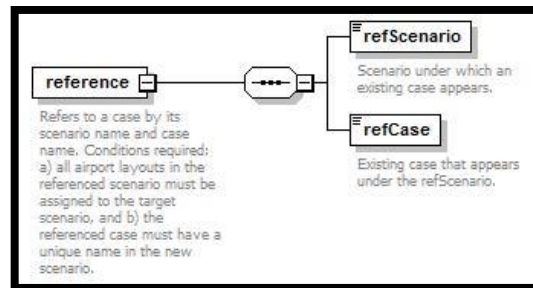

Figure 46- reference -> case and scenario
8. AsifXml/study/scenario/case/reference (Figure 46):